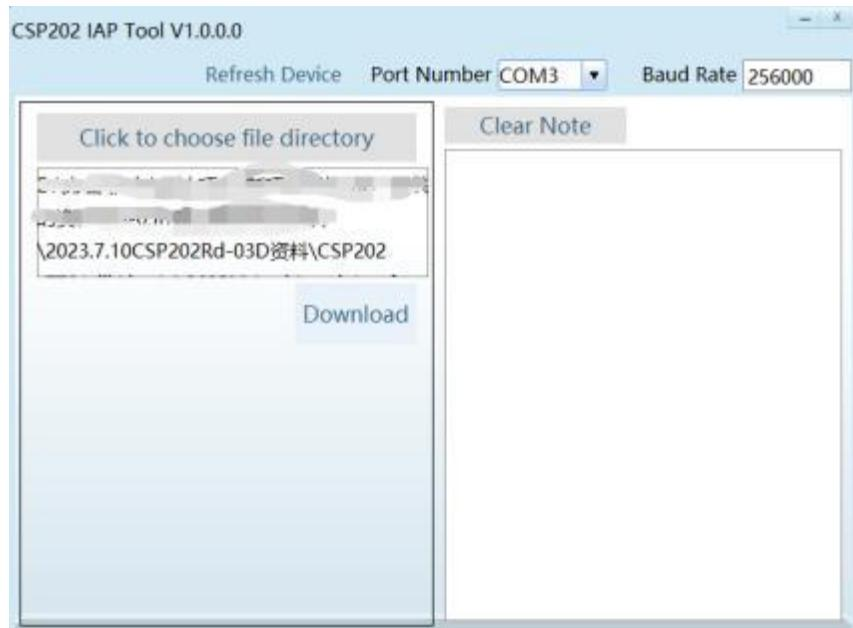

Figure 4- 13 Rd-03D_V2 the firmware upgrade tool
Step 3: The "data saving" state of the upper computer is closed by default. if the user wants to open the "data saving" mode, he should click the "data saving" button when the "data saving" button is in the clickable state (as shown in figure 4- 12(a)); clicking the "data saving" button again will close this mode;
Step 3: Open the firmware upgrade tool, click the "Refresh Device" button, select the serial port number of the radar module in the "Port Number" drop-down box, and the baud rate is 256000, as shown in Figure 4- 13;
Step 4: click the "click to select file path" button to select the ufw file to be upgraded; click the "download" button to start the firmware upgrade, the prompt messagebox on the right will display the download result in realtime, and the download progress will be displayed below the prompt box, as shown in figure 4- 14;